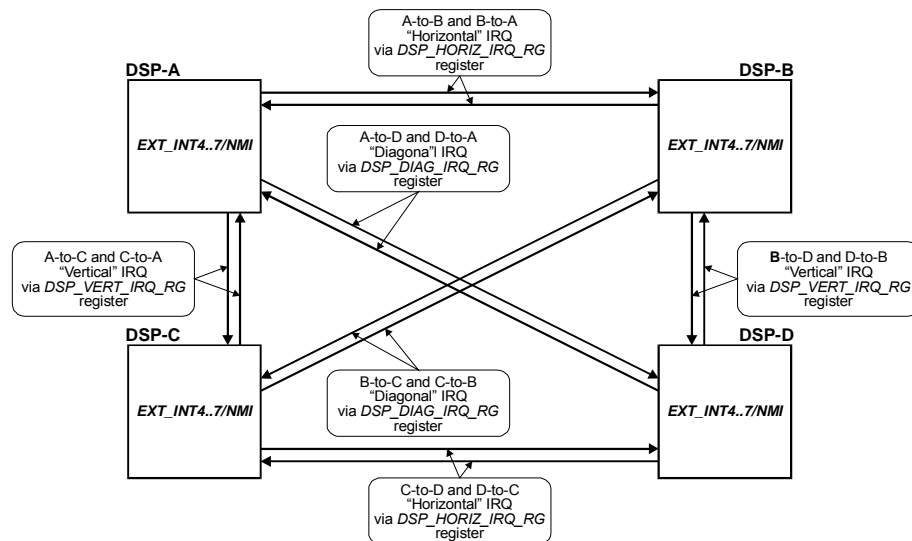

Fig.2-4b. On-board DSP-to-DSP communication topology via DSP-to-DSP interrupt requests for *TORNADO-PX64xxQ* DSP Coprocessor DCM.
- DSP-to-DSP communication via ‘horizontal’, ‘vertical’ and ‘diagonal’ interrupt requests (fig.2-4b), which are typically used to set DSP-to-DSP ready or attention events without any data message passing. ‘Horizontal’, ‘vertical’ and ‘diagonal’ interrupt requests are used to generate node-to-node interrupt requests with the sender DSP node being exactly identified by the recipient DSP node. Refer to subsection “DSP-to-DSP communication via ‘horizontal’, ‘vertical’ and ‘diagonal’ interrupt requests” later in this section for more details about DSP-to-DSP communication via on-board DSP-to-DSP interrupt requests.
TORNADO-PX64xxQ DSP coprocessor DCM supports DSP-to-DSP communication via DSP-to-DSP interrupt requests as the following (fig.2-4b):